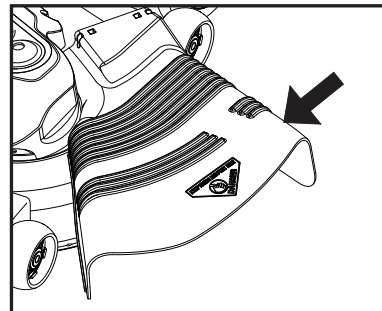

Fig. 9
**CAUTION: Do not operate the mower without either the entire grass catcher, on mowers so equipped, or the deflector shield (S) in place (See Fig. 9).**